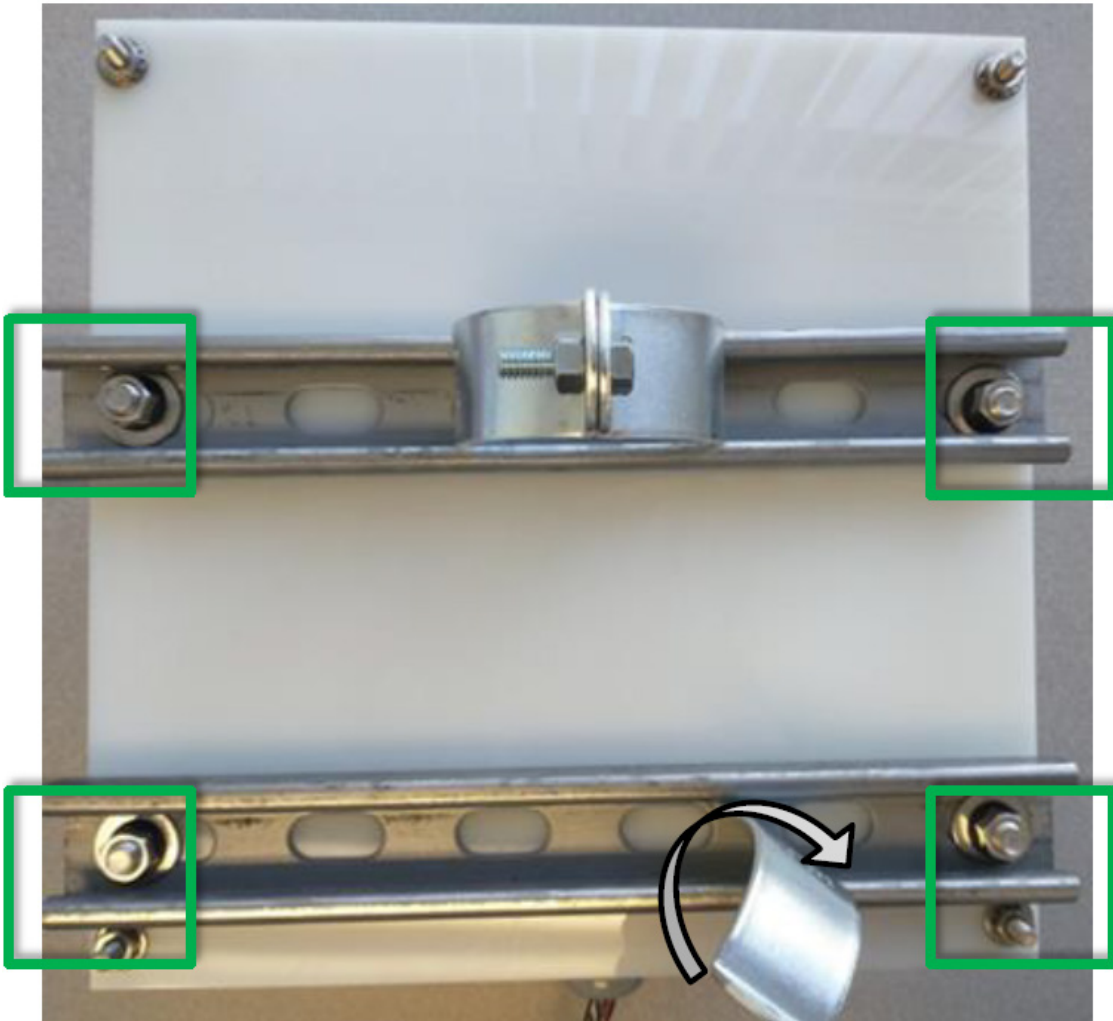

Figure 4. Mounting Struts and Clamps
Do not remove the nuts holding the mounting struts to the sensor enclosure (Figure 4) These are indicated by green squares.
2. Insert both mounting clamp halves into each strut channel, between the nuts marked in Figure 4 by green squares. Twist the mounts to insert them into the strut channel, then twist them back to lock them in place.
6. Connect a ground cable to the nut labeled GND at the bottom edge of the enclosure (Figure 4).